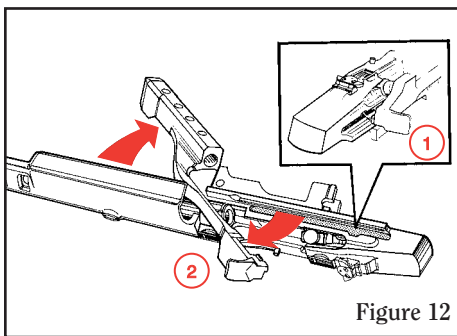

Figure 12
8. Pull slide handle to the rear. Align projection on slide with disassembly notch on receiver. Remove slide (See Fig. 12).